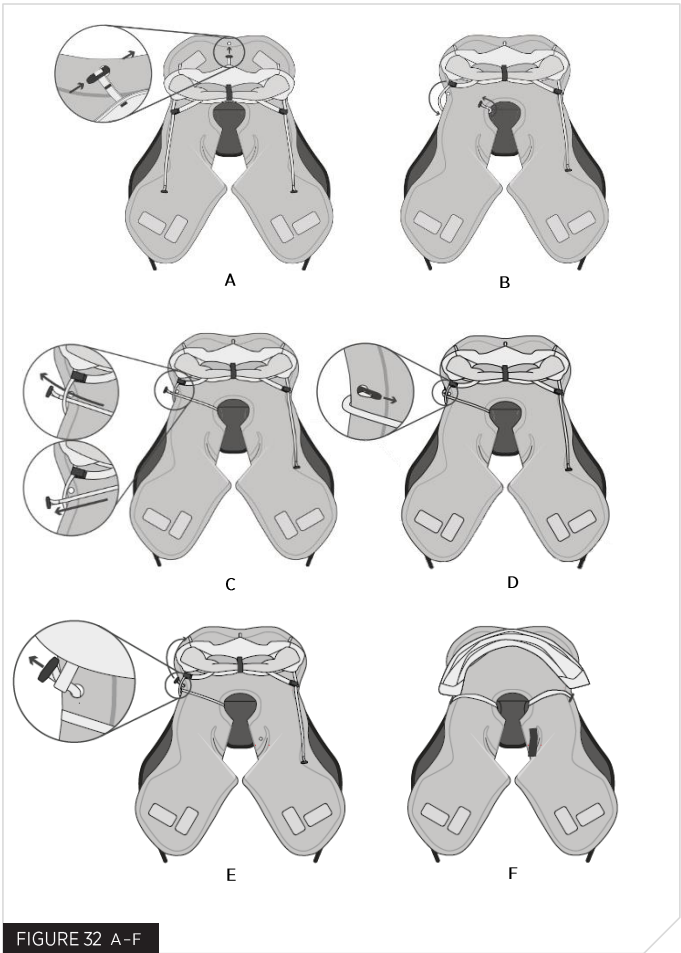

FIGURE 32 A-F
2. Locate the toggle at the top of the hood and put it through the punched hole on the top of the bladder (Fig 32, A).
3. Locate the toggles on each side of the hood and pass them through the punched holes on the sides of the bladder (Fig 32, E – F).